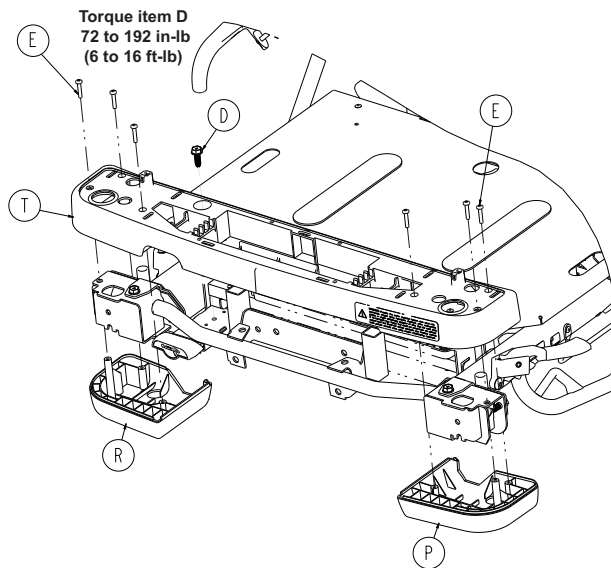

Figure 49 – Foot end covers
9. Using a T25 Torx driver, remove the six screws (E) that secure the foot end bottom covers (P and R) to the mid cover (T) (Figure 49). Save the foot end bottom covers and screws.